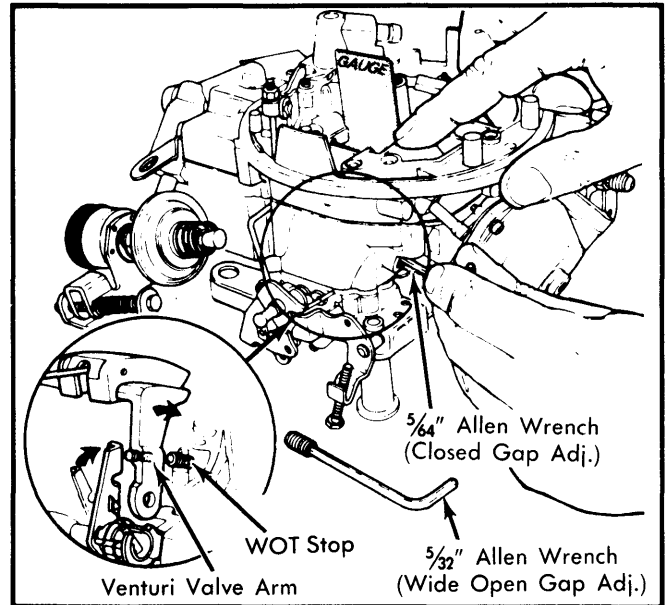

Fig. 4 Venturi Valve Wide Open Throttle Adjustment
2) Hold throttle plates wide open and lightly push venturi valve toward closed position. Using fabricated gauge, measure distance between venturi valve and wall of bore (closed gap). Adjust (closed gap) to specification by turning adjustment screw on venturi valve arm with a $\frac{5}{64}$ " Allen wrench. See Fig. 4.
3) Using a $\frac{5}{32}$ " Allen wrench, reinstall wide open throttle adjusting screw and spring. Hold throttle plates wide open and lightly push venturi valve to wide open position until it stops. Measure distance between venturi valve and wall of bore (wide open gap). To adjust, turn wide open throttle adjusting screw with a $\frac{5}{32}$ " Allen wrench until correct specification is obtained. Install new expansion plug. See Fig. 4.